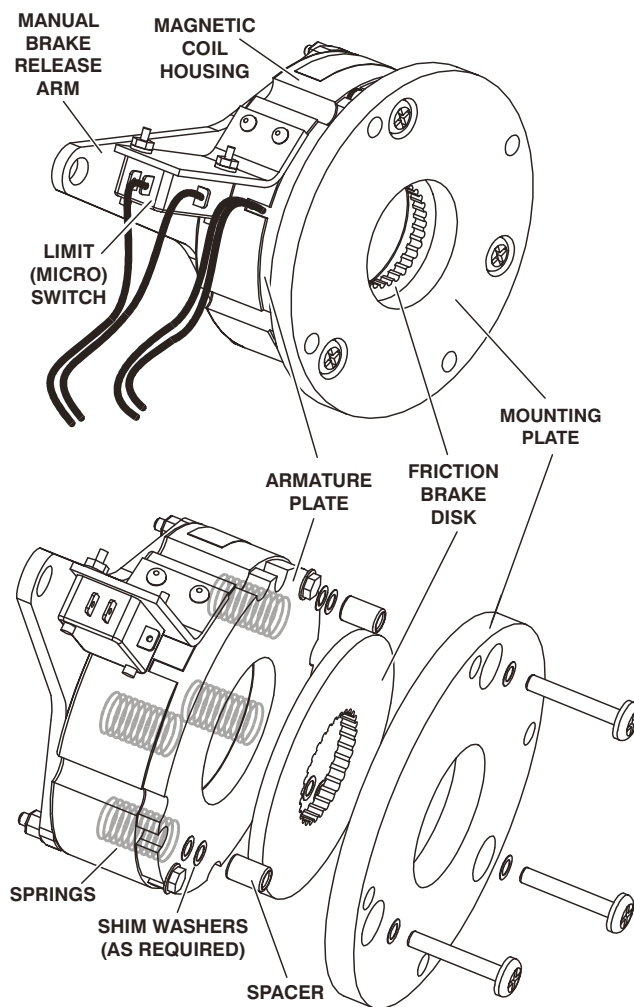
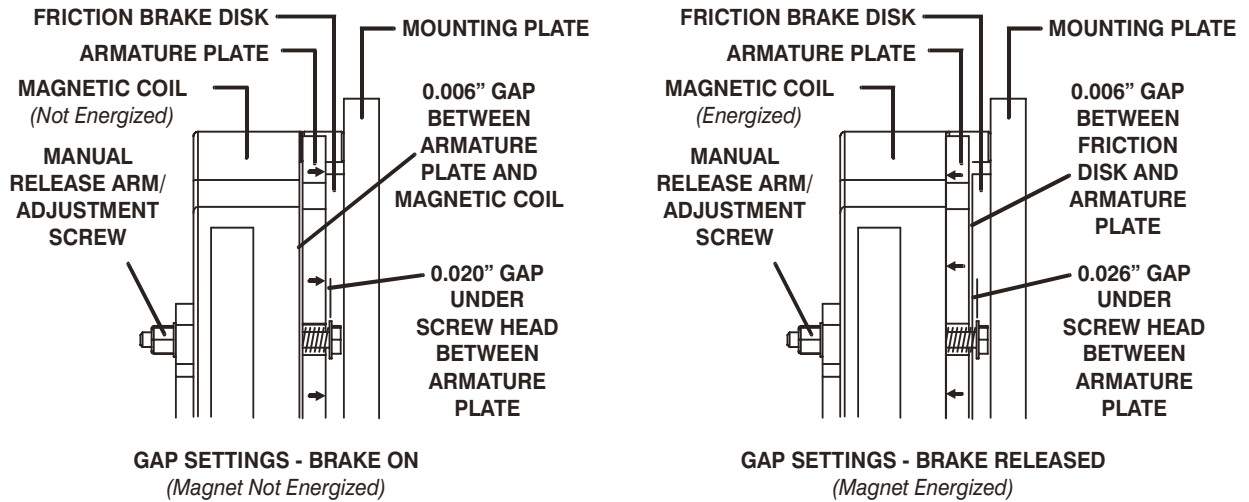

Figure 2-4. Brake Assembly Components
Figure 2-5. Brake Armature Plate & Brake Disk Adjustment.
(See Figure 2-4. & Figure 2-5.)
Operation (See Figure 2-4. & Figure 2-5.)
3. With the brakes ENGAGED measure the air gap between the armature plate and the magnetic coil housing. The correct setting should be .006", however the brakes will operate properly if the measurement is a minimum of .004" and a maximum of .010". (See Figure 2-5.)